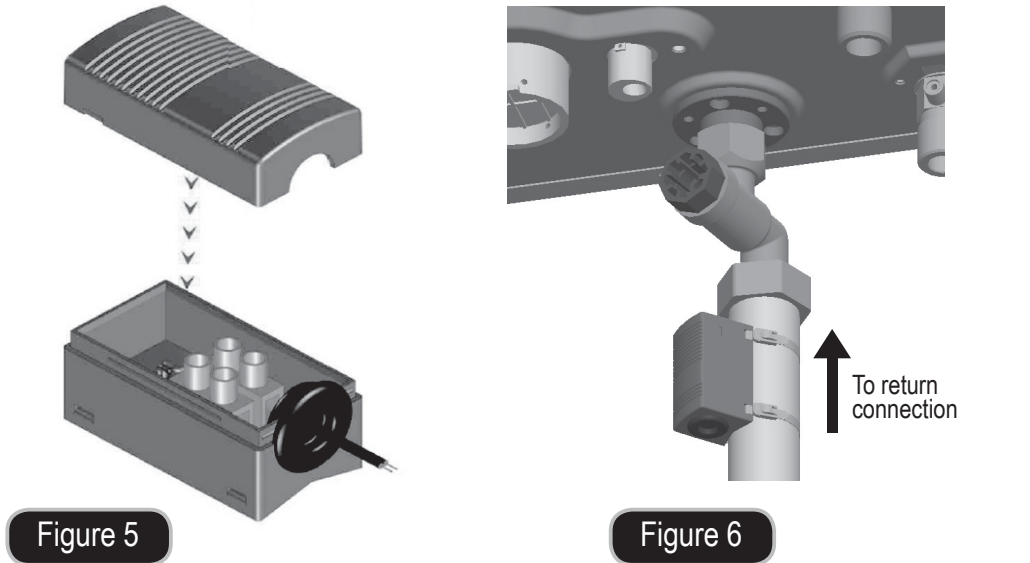

Figure 5
3) Close the cover. See Figure 5.